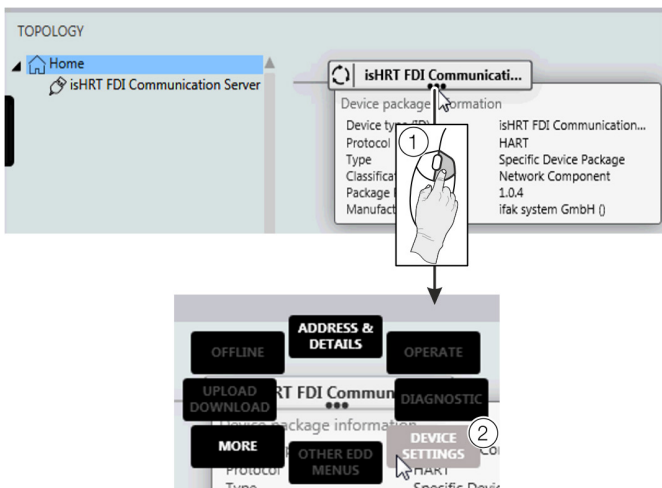

Figure 71: Select FIM – 'Device Settings'
6. Right-click ① as shown in **Figure 71**.
7. Select 'DEVICE SETTINGS' ② as shown in **Figure 71**.